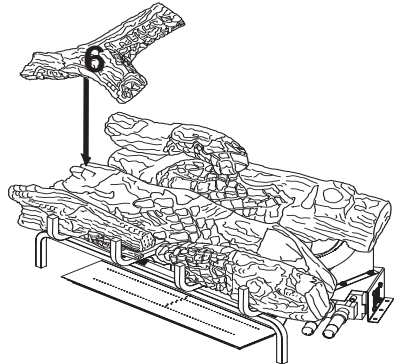

Figure 33- Installing Log # 6
6. Place the left top front log (#6) on the top of the middle log and the left top back log. Match the rectangular projection on top of the middle log with the rectangular hole on the bottom of the left top front log. The left top front log will rest on the flat part of the left top back log. See Figure 33.